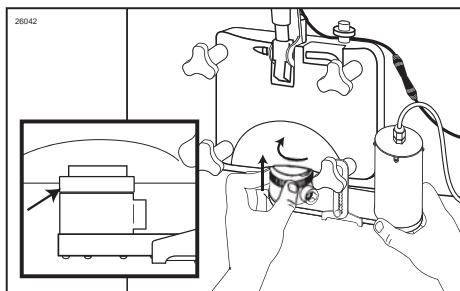

Figure 17
2. Install the Injector Head fully over the Spout Adapter so that the locking collar covers the tabs on the Adapter. Rotate the locking collar to secure. (See Figure 17.)